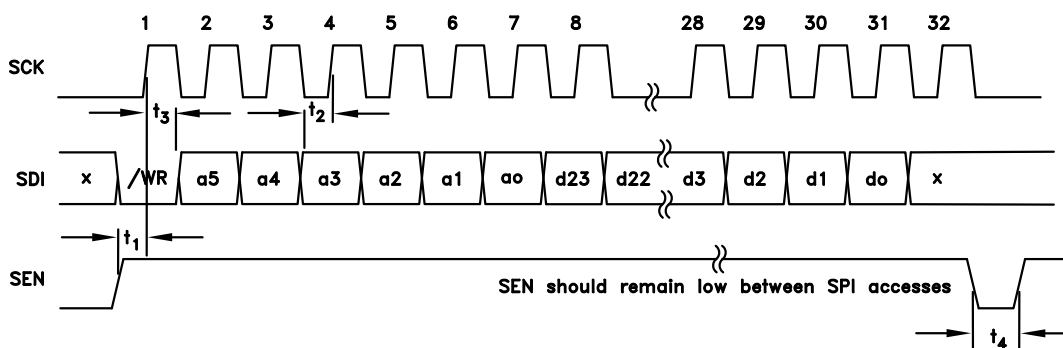
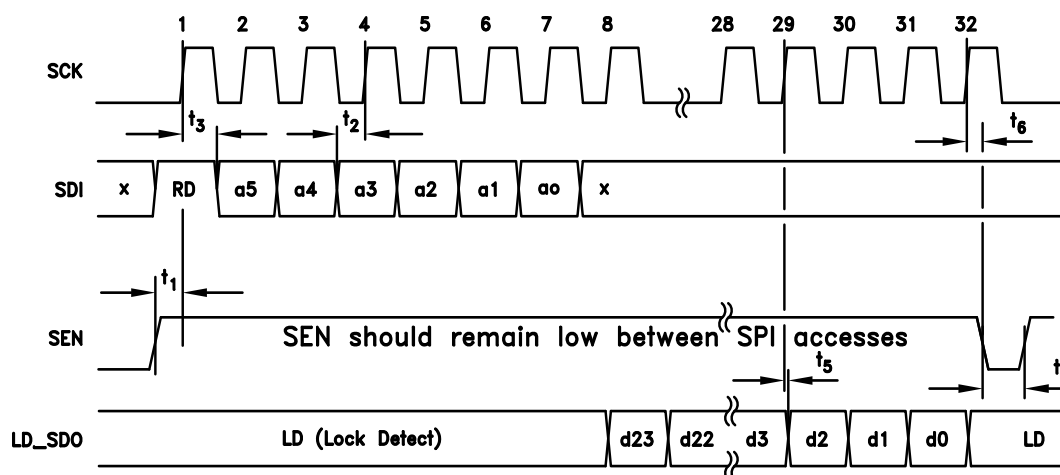

Figure 24. HMC Mode - Serial Port Timing Diagram - WRITE
Figure 25. HMC Mode - Serial Port Timing Diagram - READ
The HMC Mode protocol, shown in figures Figure 24 and Figure 25, is designed for a 4 wire interface with a fixed protocol featuring
A typical HMC Mode WRITE cycle is shown in Figure 24.
A typical HMC Mode READ cycle is shown in Figure 25.
- The Master (host) asserts both SEN (Serial Port Enable) and SDI to indicate a READ cycle, followed by a rising edge SCLK. Note: The Lock Detect (LD) function is usually multiplexed onto the LD_SDO pin. It is suggested that LD only be considered valid when SEN is low. In fact LD will not toggle until the first active data bit toggles on LD_SDO, and will be restored immediately after the trailing edge of the LSB of serial data out as shown in Figure 25.
- The slave (PLL with Integrated VCO) reads SDI on the 1st rising edge of SCLK after SEN. SDI high initiates the READ cycle (RD)